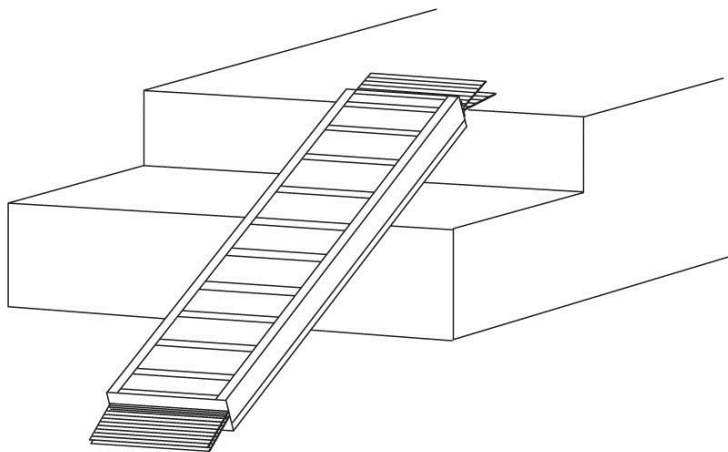

FIGURE 1
2. Place ramp on landing in the folded position, making sure that the top lip transition plate (labeled TOP) is resting securely on the landing, see FIGURE 1.
3. Unfold ramp and center on landing as shown in FIGURES 1 & 2.